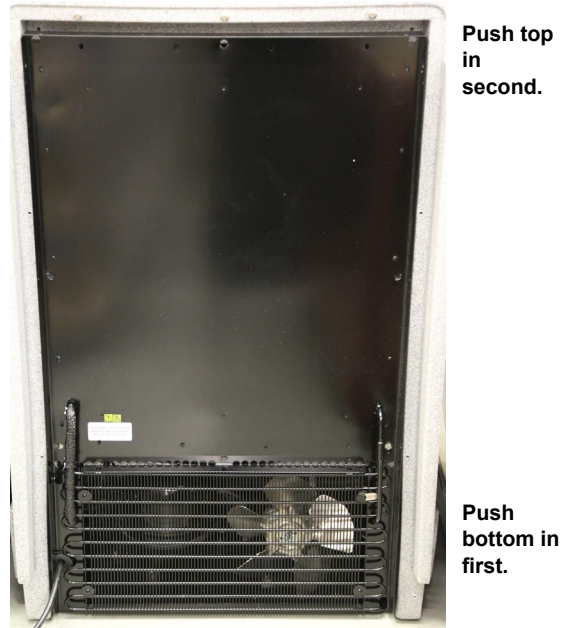

Figure 12: Slide module into place
18. Install the module, tipping the top back while sliding the bottom forward. When the bottom of the system is in place, push the top into place (Figure 12). Ensure the slack in the power cord is removed before securing refrigeration module frame.